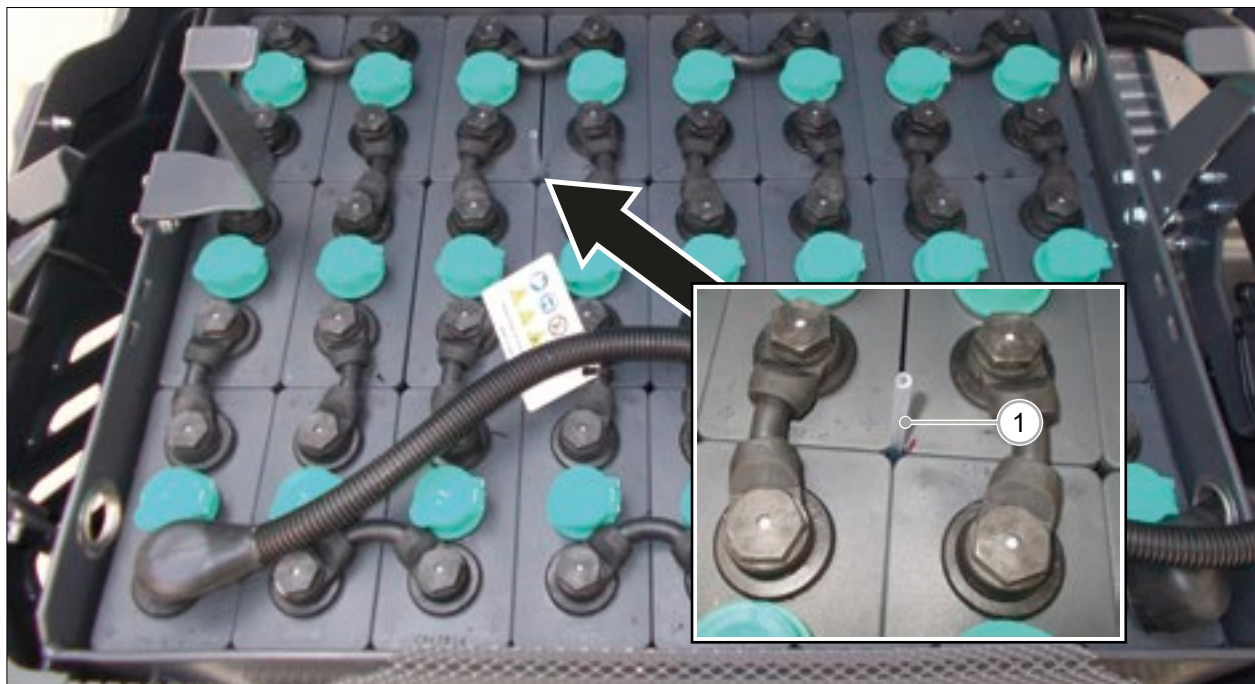

FIG. 47
- Draw the fluids out of the container using the tubes (FIG. 47 - Ref.1) provided with the batteries;